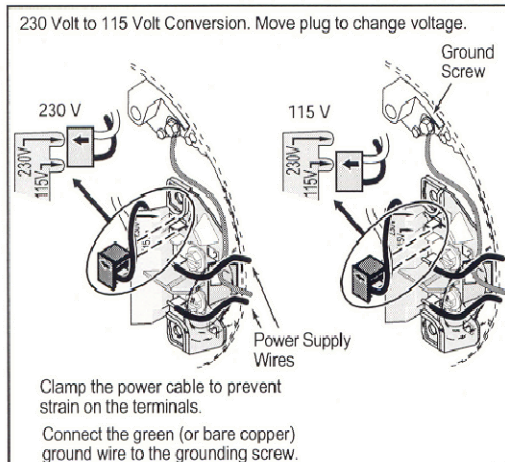

Figure 5: Motor wiring connection, Plug-in
3. Connect the green (or bare copper) ground wire to the green ground screw first (see Figure 5). Use a solid copper wire at least as large as the power supply wires.
**To Convert 230 Volts to 115 Volts, Plug-in type (see Figure 5).**
4. Pull the plug straight out from the terminal board, from 230 Volt socket (Figure 5).
1. Connect ground wire first. Connect the ground first, then to green grounding terminal provided under motor canopy (see Figure 5) identified as GRD. Make ground connection to this terminal. **Do not** connect motor to electrical power supply until unit is permanently grounded; otherwise serious or fatal electrical shock hazard may be caused.